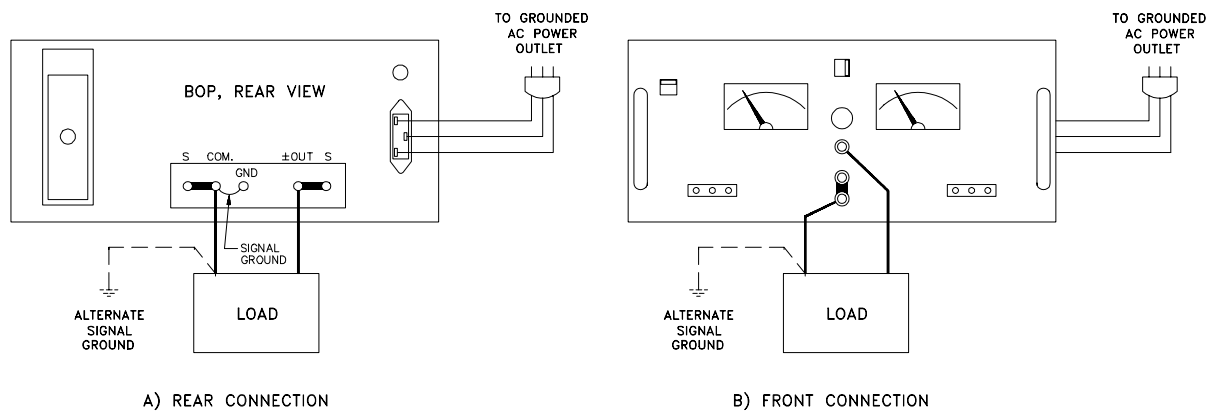

FIGURE 3-5. BASIC 2-WIRE LOAD CONNECTION AND GROUNDING CONNECTIONS BETWEEN THE BOP AND THE LOAD
B) **LOAD CONNECTION (I):** The basic interconnection between the BOP and the load are shown in FIG. 3-5. The load wire size for the 2-wire connection shown should be as large as practicable to keep the series resistance and inductance low. In addition, the load wire pair should be tightly twisted, to reduce possible “pick-up” from stray magnetic fields. The basic 2-wire connection is useful where the voltage drop in the load wires is of minor consequence, as for example, operation into a constant load or in a constant current operating mode.